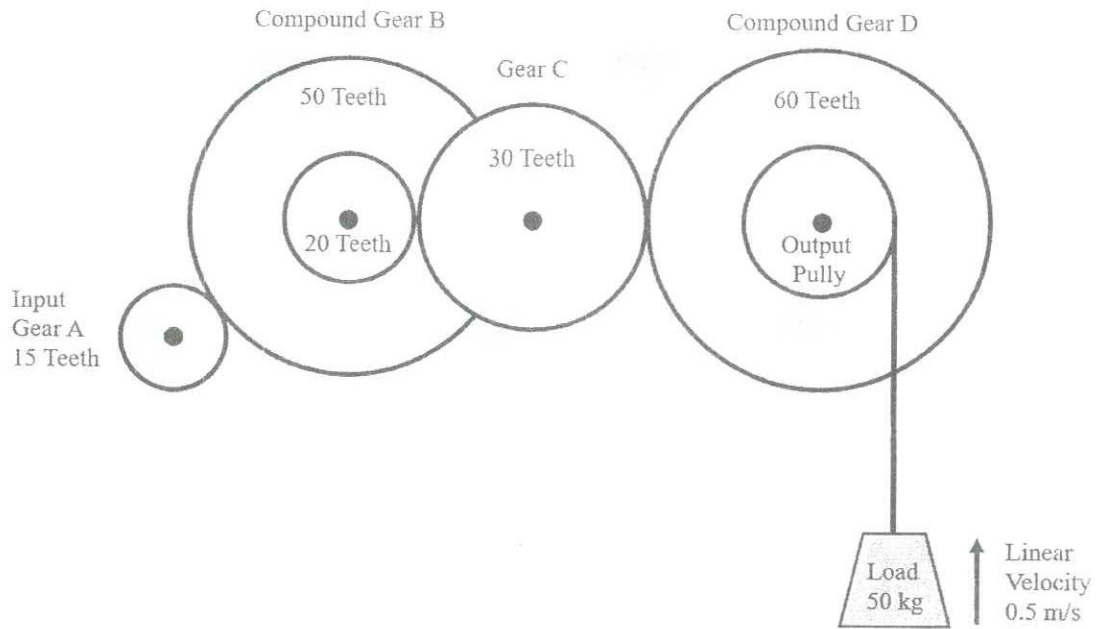

Figure Q3(c): The arrangement of the compound gear train
- c) The compound gear train given in Figure Q3(c) is used to lift a 50 kg load at a constant velocity of 0.5 m/s using a motor attached to the input gear A. The diameter of the output pulley is 10 cm. Assume there are no losses between the gears and pulleys. Answer the followings,